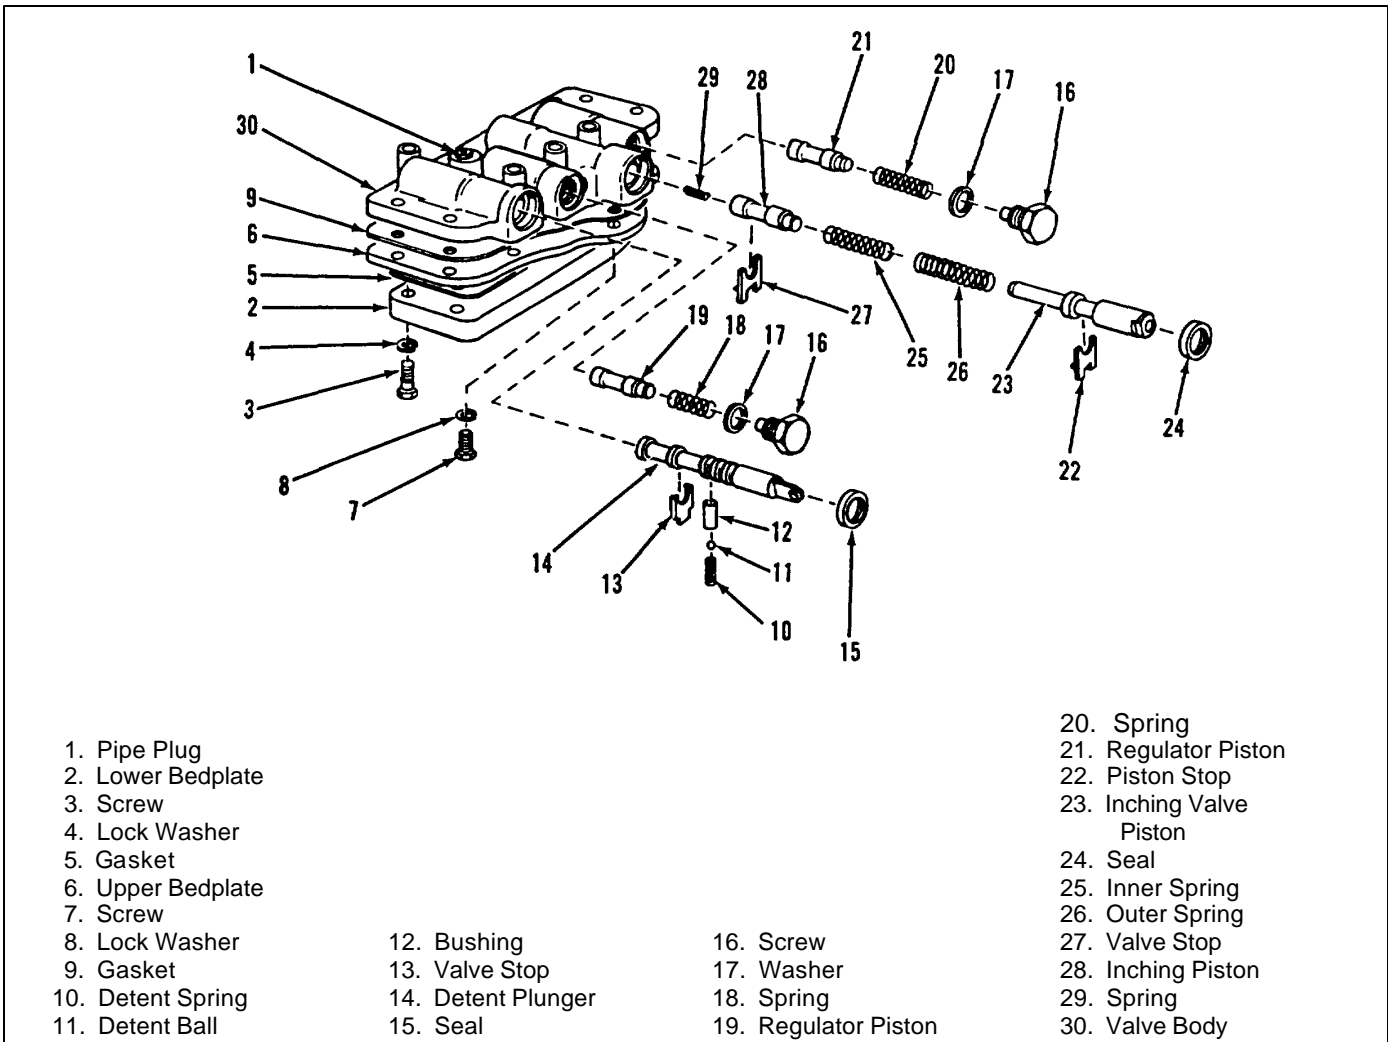

Figure 4-16. Transmission Control Valve Assembly, Exploded View
1. Invert valve from position shown. Remove pipe plug (1, figure 4-16), screws and washers (3 and 4), valve bedplate and gasket (2 and 5).
2. Remove screw and washer (7 and 8), bedplate (6) and gasket (9). Spring, ball and bushing (10, 11 and 12), and the piston stops (13, 22 and 27) are now uncovered. Remove them.
3. Remove retainer screws (16), washers (17), springs (18 and 20) and pistons (19 and 21).
4. Remove seals (15 and 24), plunger (14), springs (25 and 26) and pistons (23 and 28).